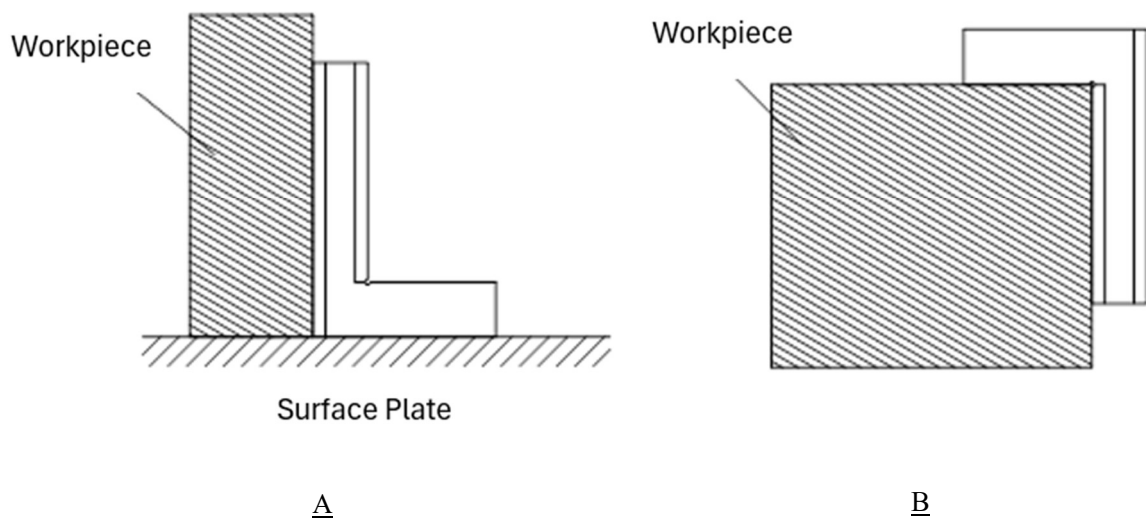

Figure 2 Instructions for Using the Engineer's Square
- 1) As shown in Figure 2.A, place the square upright on a Reference Surface Plate or similar, and press the Precision Surface against the workpiece to perform the measurement. At this time, check the gap between the square and the workpiece by the amount of light passing through or by using a thickness gauge.
- 2) As shown in Figure 2.B, measure the right angle by placing the side face of the square against the workpiece. It can also be used as a reference when setting up parts..